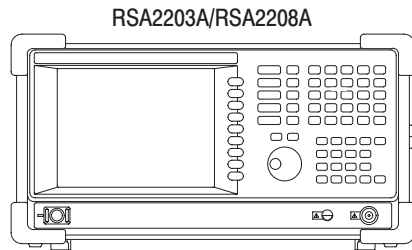

Figure 4–18: Initial test hookup
- d. *Hook up the signal generator:* Connect the generator output through a 50 Ω N-N coaxial cable to the analyzer **INPUT**. See Figure 4–16.